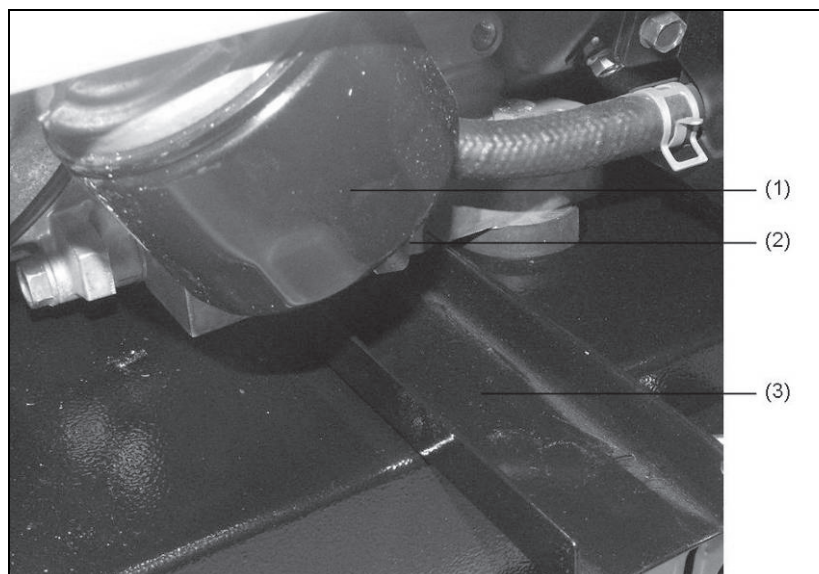

Figure 6-2: Changing the oil
2. Attach oil drain channel (*Figure 6-2-(3)*) as shown.
3. Remove oil drain screw (*Figure 6-2-(2)*) so that engine oil runs off completely.